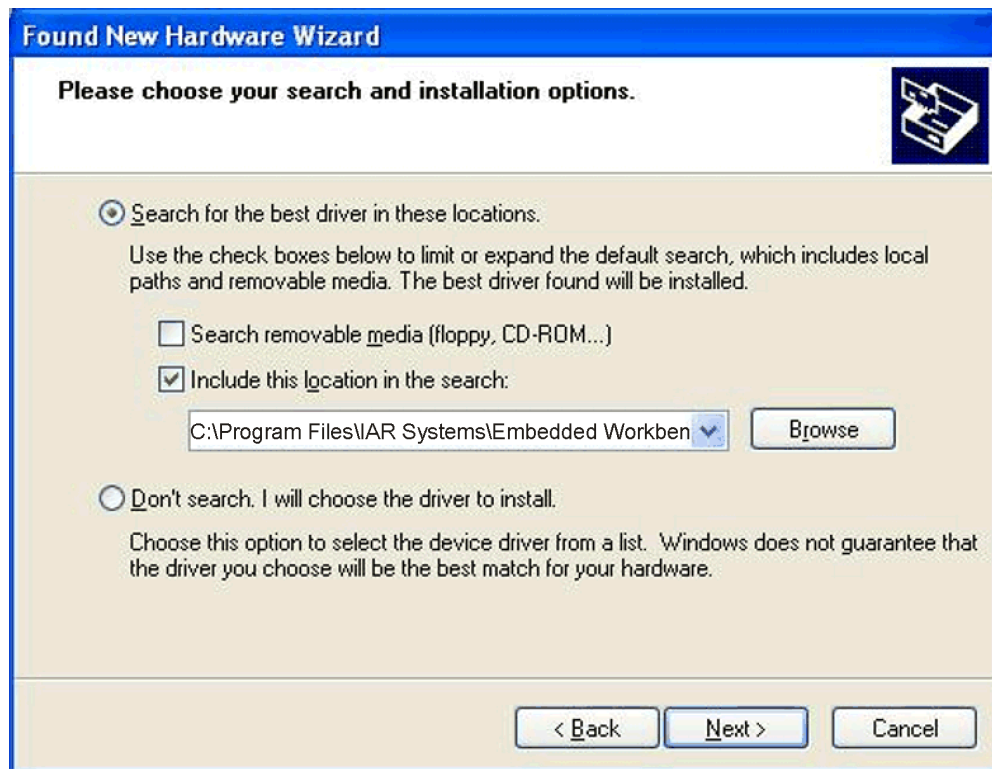

Figure E-3. WinXP Driver Location Selection Folder
6. Browse to the folder where the driver information files are located (see Figure E-3). On a default installation the files are located in the following directory: